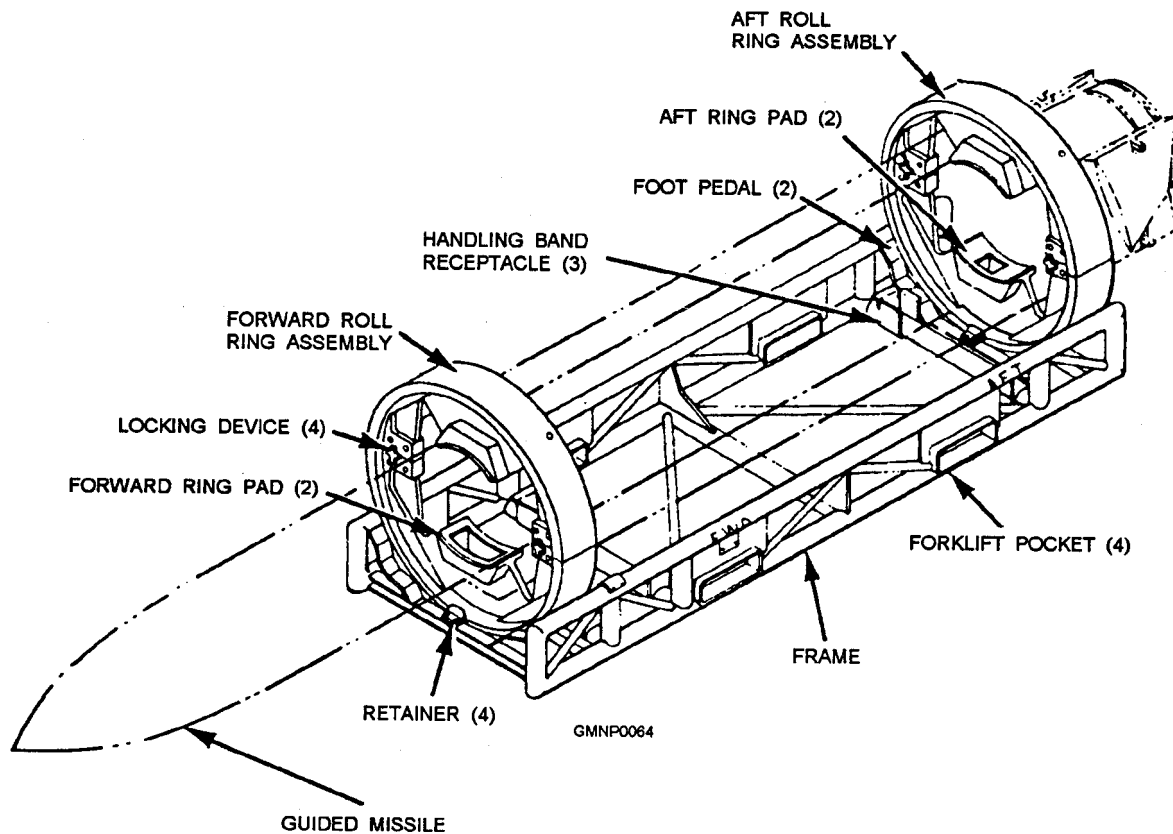

Figure 2-49.—Mk 8 dolly loading stand.
**DOLLY LOADING STAND.—** The Mk 8 dolly loading stand is shown in figure 2-49. It is adaptable for Standard missiles. The stand is used to load/unload a Mk 6 transfer dolly. You might also hear the Mk 8 loading stand called a roll stand or (simply) a load stand.